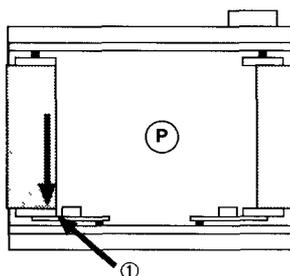

Figure 9.
- Step 5: Turn the film advance knob to wind the film securely onto the empty spool. Advance the film until an arrow printed on the film backing appears. See Figure 9. Stop when the arrow lines up with the arrow stamped on the left metal tab (① in Figure 9).